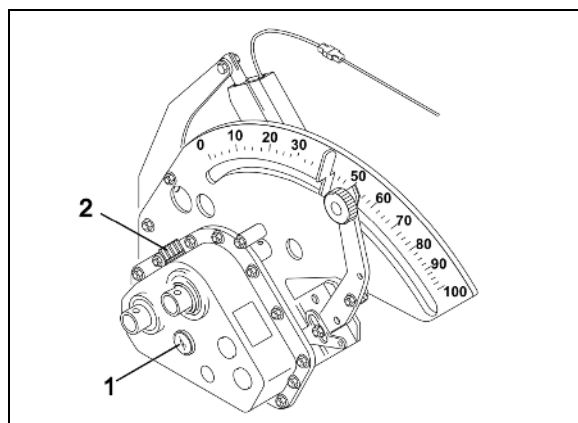

Fig. 147
2. The oil level must be visible in the oil gauge window (Fig. 147/1) of the Vario gearbox.
5. Take the required gearbox oil from table (Fig. 147).
6. Fill the Vario gearbox up to the oil gauge window (Fig. 147/1) via the oil filler neck (Fig. 147/2) with gear oil. .
7. After filling cover the filler neck with the dust cap (Fig. 147/2).